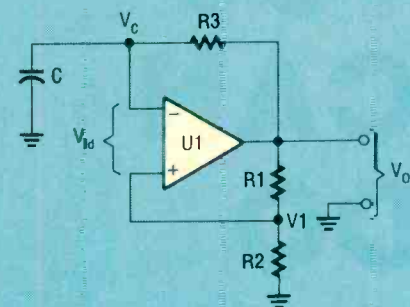

Fig. 4. The op-amp output indirectly charges  $C$  until its inverting input voltage becomes too high. Then the op-amp goes low and discharges  $C$  through  $R3$ .
Fig. 4. To install the mercury switch you must first solder a small piece of wire to one solder pad. Wrap the loose ends of the wire around the switches case securely.
The special mercury switch must be mounted solidly to receive the vibration from the protected item. To do that, start by soldering a “U” shaped piece of wire to one of the switch’s solder pads, as shown in Fig. 4. Solder a piece of wire to the switch’s protruding rod and solder the wire to the other pad for the switch. Rest the switch’s case between the two ends of the U-shaped wire and twist the wire’s ends tightly together. If you have a very good flux such as Stay Clean, the case can be spot soldered to the wire. If you do solder the case, do it very quickly and be careful not to overheat it.
**A Square-Wave Generator.** Figure 4 shows the usual textbook circuit for an astable op-amp square-wave generator. The op-amp is used as a voltage comparator in the circuit and is